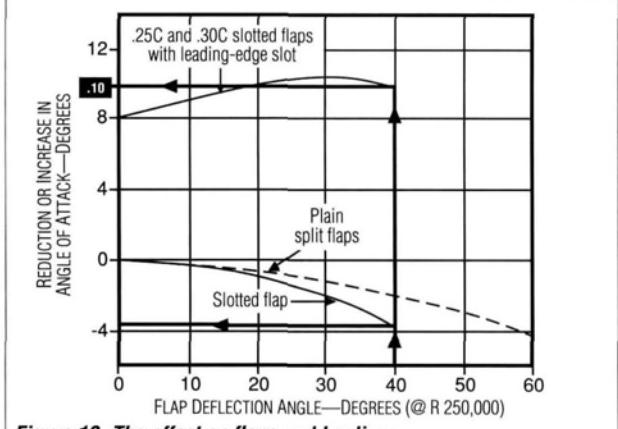

Figure 12. The effect on flaps and leading-edge slots on the angle at maximum lift.
- **High-lift devices.** As Figure 12 shows, slotted flaps extended 40 degrees would cause a further reduction of 4 degrees to 9.5 degrees stall angle. Had the slotted flaps been combined with fixed leading-edge (LE) slots, there would be a gain of 9 degrees, to 22.5 degrees stall angle.